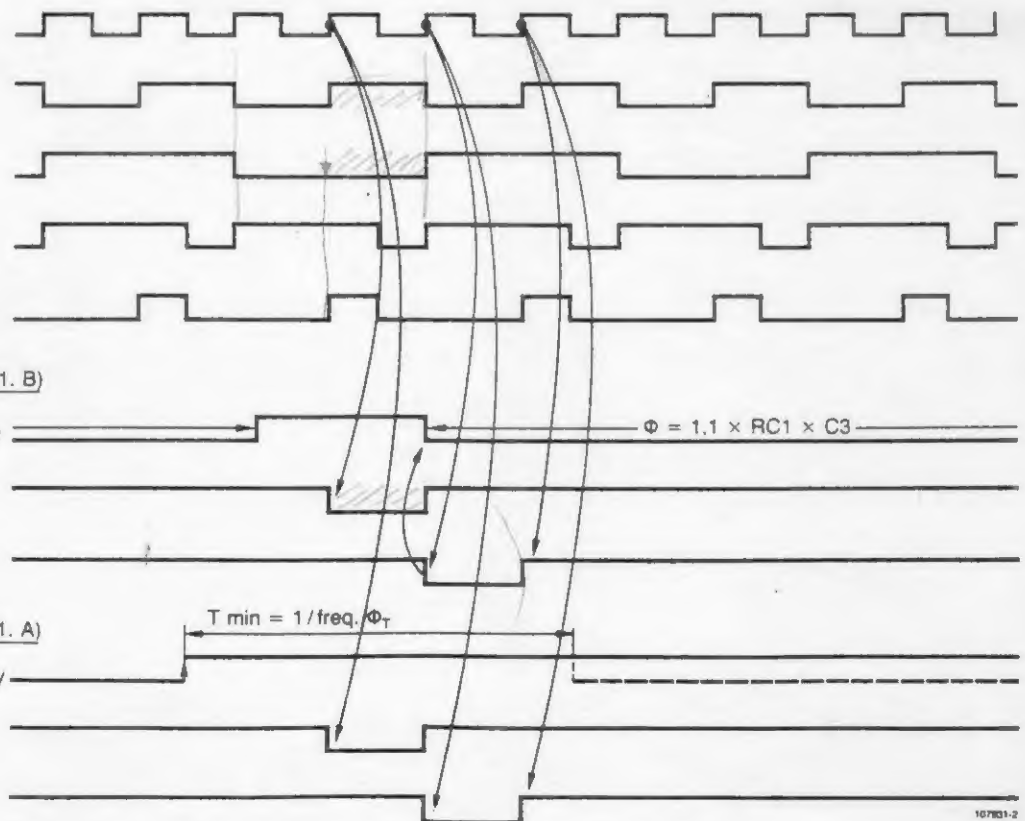

Figure 2 - Timing diagram of logic circuit command signals
- Pin no. 9: external sample-and-hold signal (see figure 2).
- } TTL logic (see figure 2)